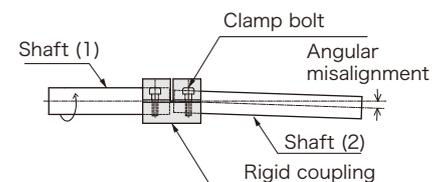

Fig. 5
- Insert shaft (1) and shaft (2), ensuring that they are aligned in a straight line so that there is no angular misalignment. The correction cannot be completely effected if the clamp is fastened while there is angular misalignment (see Fig. 5).